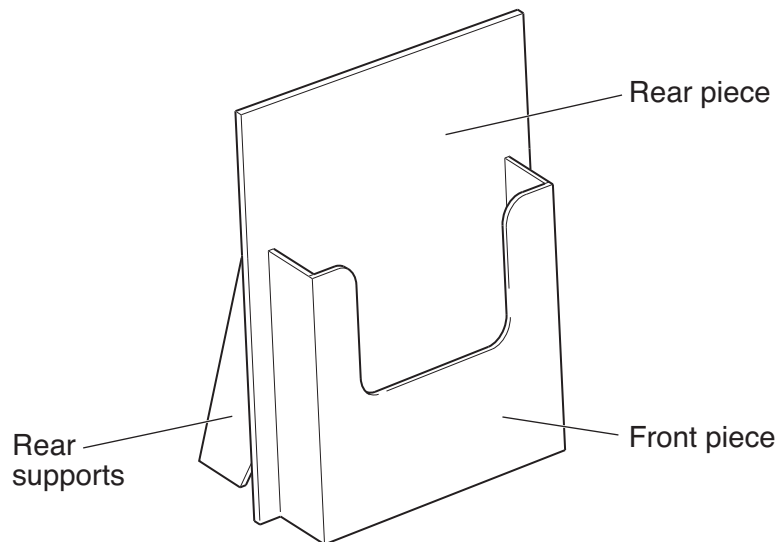

Fig. 5
- (b) Fig. 5 shows a holder, made from board, used to dispense the leaflets. The net of the holder is in one piece.